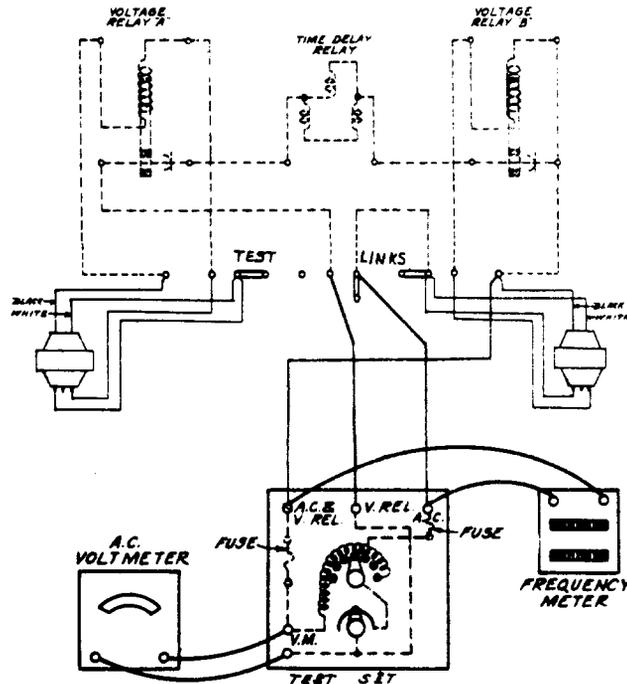

Fig. 10 - Test Connections for Time Delay Relay With and Without Transformers
(1) Connections to the time delay relay should be changed only after the line service switch directly ahead of the master switch has been opened. Connections should be made as shown in schematic form in Fig. 10. After connections are completed energy for testing the time delay relay may be obtained by closing the line service switch.
(2) Carefully, open one of the voltage relay contacts with a small wooden stick and allow the aluminum disc to come to rest. Next close the relay contact and note the time which elapses until the contactor switch closes. This test is made with the ac service connected to the master switch.
(3) If the delay in the closing of the mercury tube switch is too short, loosen the lock nut and turn the stop screw at the right end of the mercury tube switch counterclockwise (increasing the distance the switch must travel to close). If the closing time is too great, turn the stop screw clockwise (decreasing the distance the switch must travel to close). Tighten the lock nut after each adjustment.
(4) Open the voltage relay contacts and note the time which elapses until the contactor switch opens. If the delay in opening is too short, loosen the lock nut and turn the stop screw at the left end of the mercury switch counterclockwise (increasing the distance the switch must travel). If the delay in opening is too long, turn the stop screw clockwise (decreasing the distance the switch must travel). Tighten the lock nut after each adjustment.
(5) If the relay fails to operate mechanically, check the mechanical requirements. If the relay fails to operate electrically, note that the voltage relays operate and their contacts close. Test the coil circuits with a voltmeter by connecting it across the two lower terminals of the time delay relay. If there is no voltage the trouble is external to the time